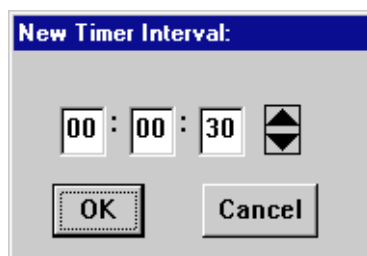

Figure 5-3. New Timer Interval Text Box
1. Click on the clock symbol (🕒) next to the **Interval** text box. The New Timer Interval text box, Figure 5-3, will appear.